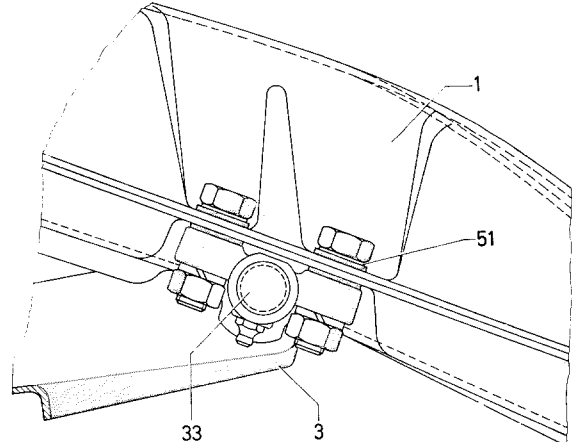

Fig. 32-5/7
**Note:** The bearing bolt is located by the two pins of the special set (61) engaging in the front axle carrier.
**9** Mount the two inner hex. bolts for fastening the bearing bolt, lower hoist and also insert the two outer bolts (Fig. 32-5/7).